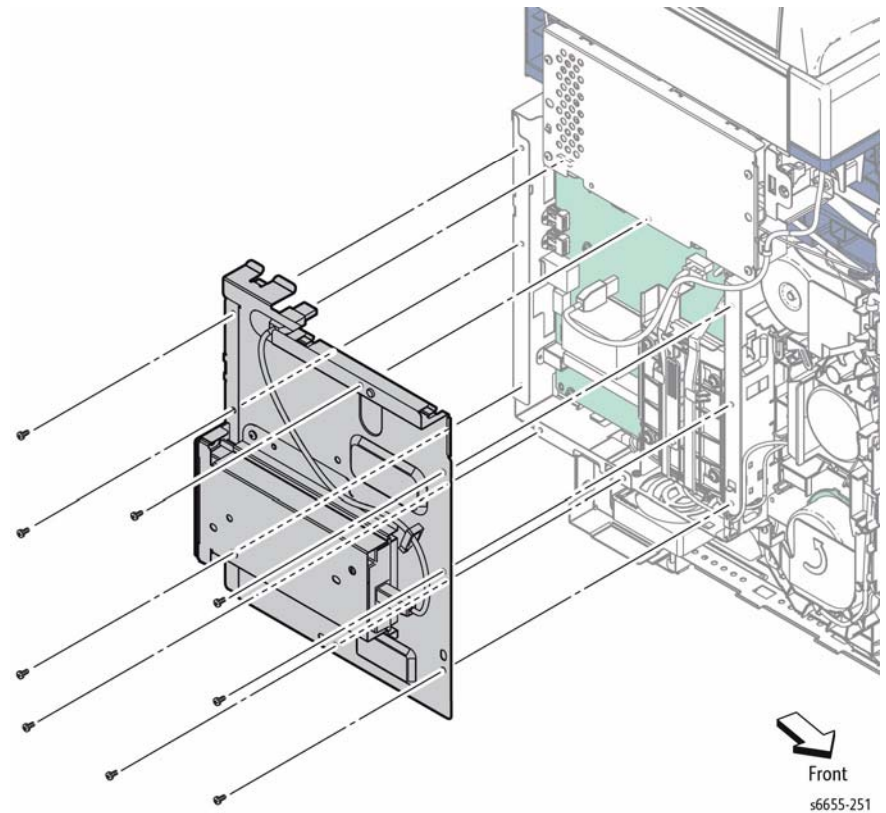

Figure 1 Remove the IP Plate
4. Refer to Figure 1 to locate and remove the nine screws (silver, 6 mm) that attach the IP Plate.